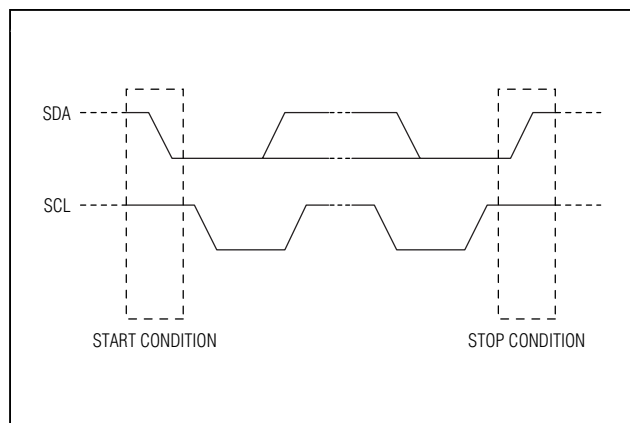

Figure 15. START and STOP Conditions
Both SCL and SDA remain high when the bus is not busy. The master signals the beginning of a transmission with a START (S) condition by transitioning SDA from high to low while SCL is high. When the master has finished communicating with the IC, it issues a STOP (P) condition by transitioning SDA from low to high while SCL is high. The bus is then free for another transmission (Figure 15).
to low while SCL is high. When the master has finished communicating with the IC, it issues a STOP (P) condition by transitioning SDA from low to high while SCL is high. The bus is then free for another transmission (Figure 15). Both START and STOP conditions are generated by the bus master.